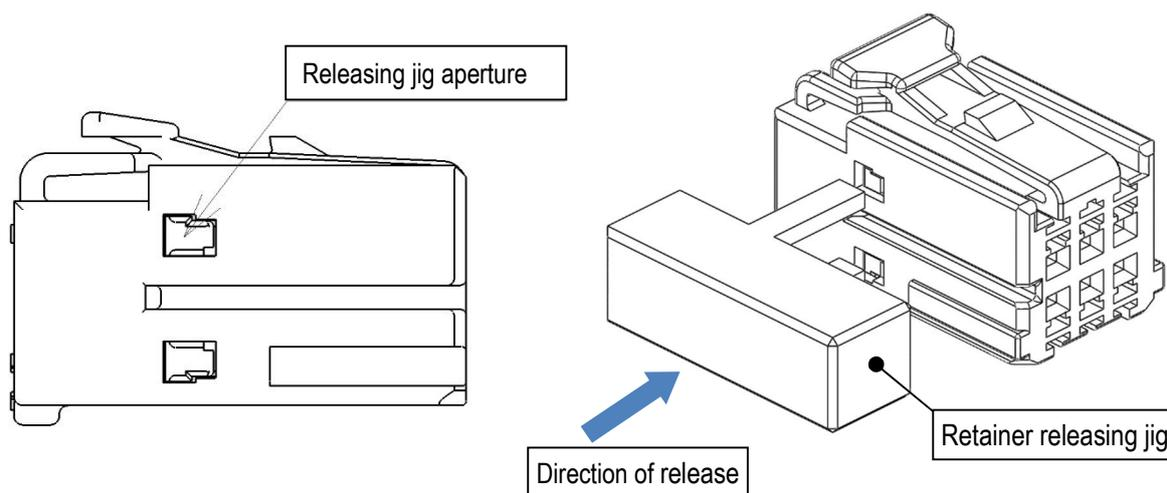

Fig 37. How to release the retainer
- ① Place the releasing jig into the releasing apertures situated on the side of the housing (Pos.1 side), and push out the retainer (see Fig.37).